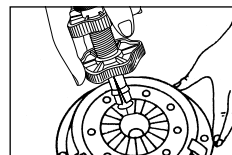

Fig. 2
2. Fit the clutch tool into the pressure plate and clutch plate, then push nut 'B' down (Fig. 2).